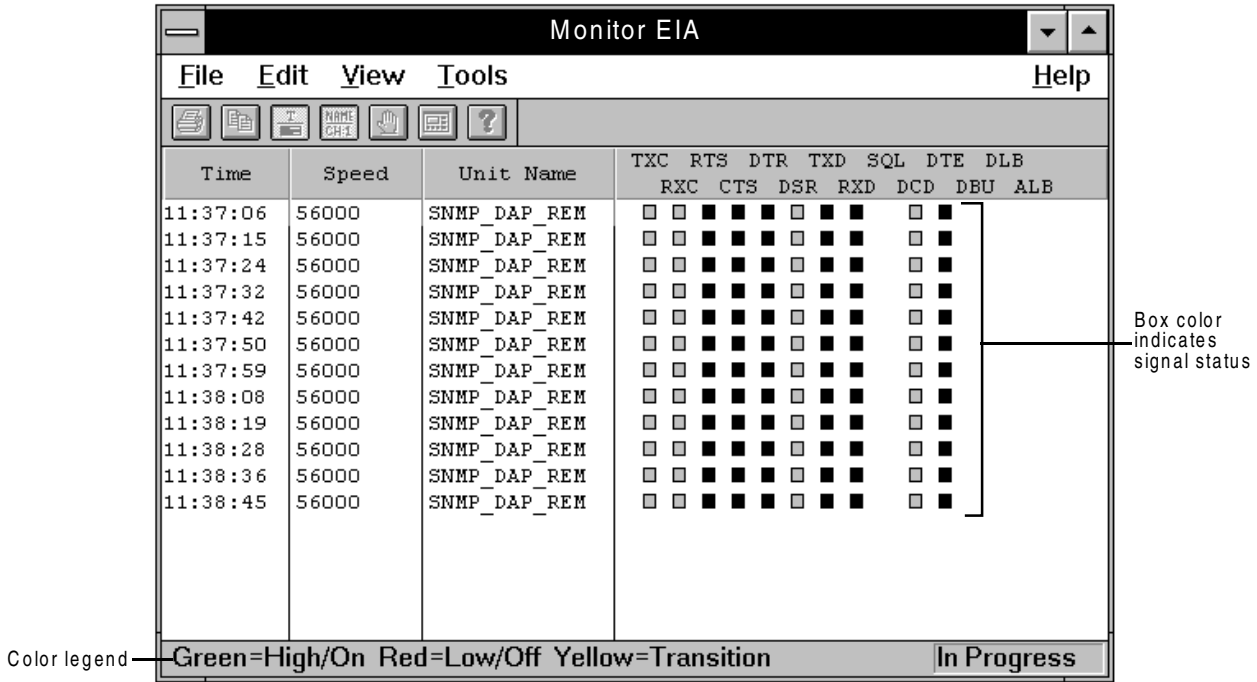

Figure 5-1. Monitor EIA Screen – Graphic View
- If the Graphical option is enabled, the status of each signal is indicated by a colored box. (See Figure 5-1.) The bottom of the screen provides a color legend.